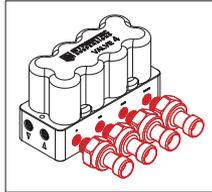

Abb. 14: Valve block
1. Mounting directly in the valve block (Fig. 14)